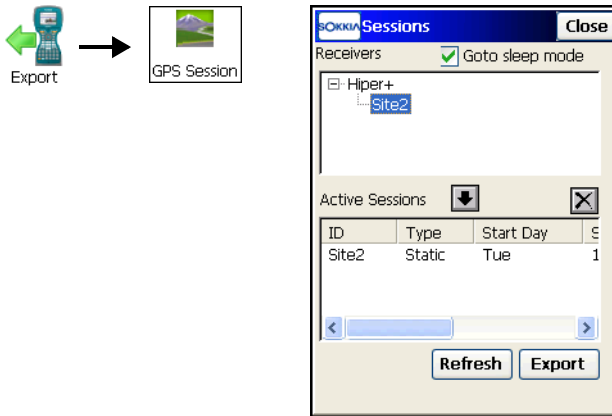

Figure 5-38. Job Session
1. This function is available in PP Static survey mode. To export the GPS session to the receiver, establish a connection between the controller and the applicable receiver, then tap **Export ▶ Sessions** (Figure 5-38 on page 5-27).
2. On the the *Sessions* screen (Figure 5-38), select the sessions to export in the left panel and tap the  button. The sessions to be exported are displayed in the right panel.